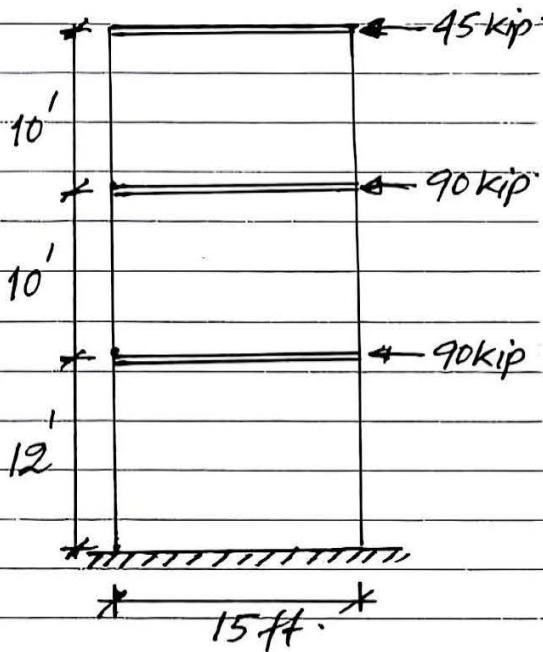

Fig. 3
8. (a) Name different types of reinforced concrete floor/roof slabs commonly used in Bangladesh with proper sketches. (12)
(b) A three storied reinforced concrete wall is subjected to factored lateral loads as shown in Fig. 3. The wall is 15 ft long and 10" thick. Design reinforcements for the wall at the first level between the base and the first floor. Given: $f'_c = 4000$ psi and $f_y = 60,000$ psi. (23)